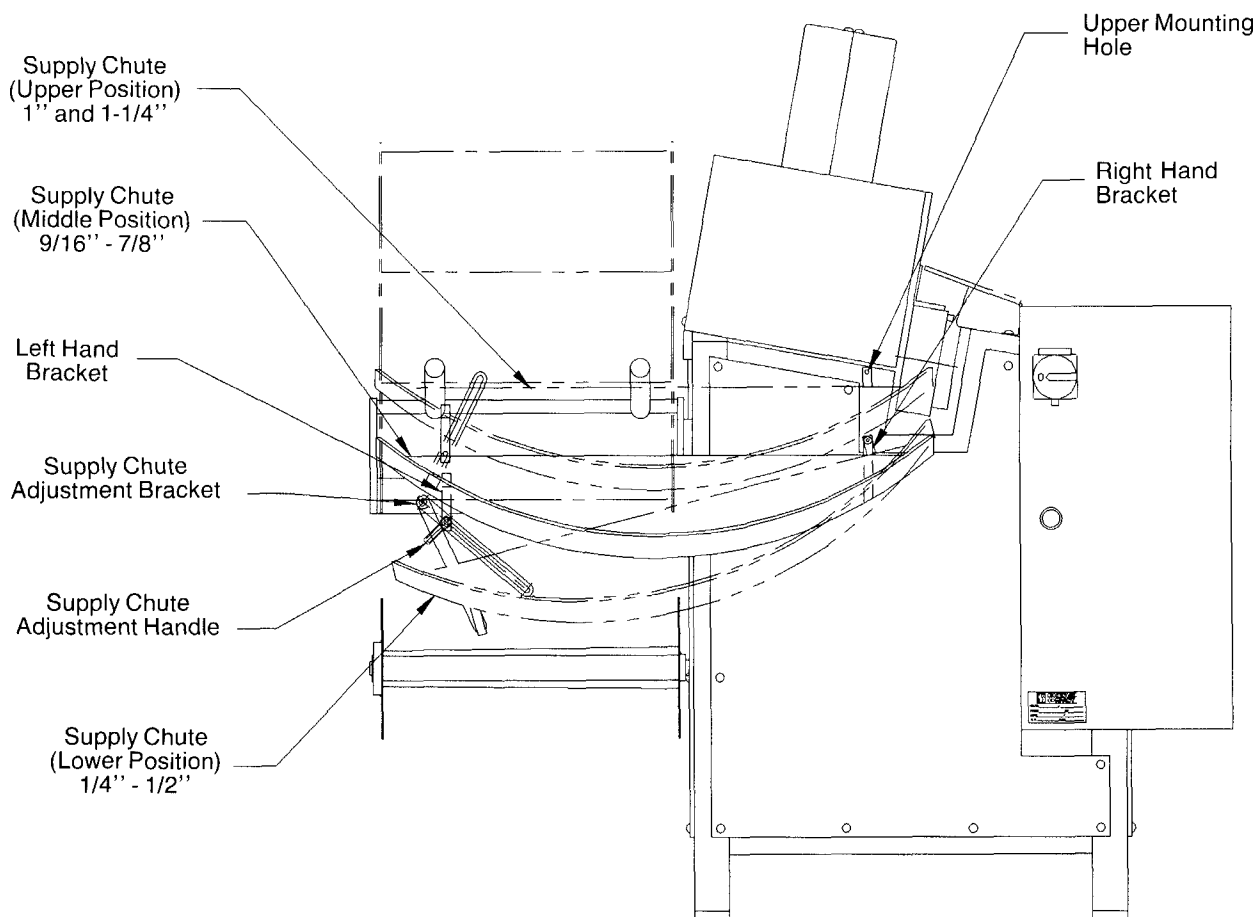

Figure 4
The supply chute is designed to be used in three different positions (see Figure 4). The upper position is for larger size wire - 1" and 1-1/4". The middle position is for medium sizes - 9/16" through 7/8". The lower position is for the small size wire - 1/4" through 1/2". The smaller sizes need more weight inside the supply chute to prevent the wire from unspooling on the bottom side of the spool. On the other hand, the larger and medium sizes will stretch too much, causing missfeeds in the feed area if left in the lower position.
2. Fasten the right hand bracket to the upper mounting hole (see Figure 4).
3. On the left side swing the supply chute adjustment bracket over and fasten the left bracket as shown in Figure 4.